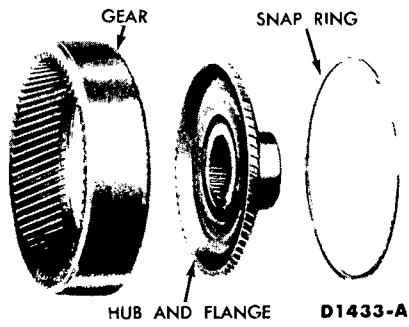

FIG. 64—Output Shaft Hub and Ring Gear
1. Remove the hub retaining snap ring (Fig. 64) from the ring gear.